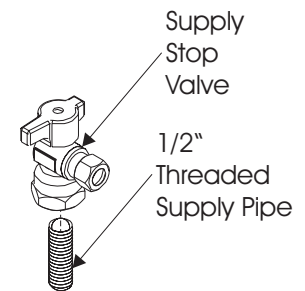
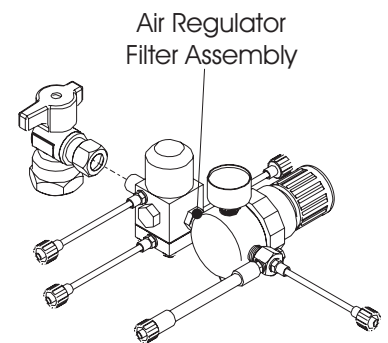

Figure 1.
Figure 2.
2 Remove the top set of pre-assembled 3/4" nut, bearing race, washer, bearing, and washer from the chair's 360 Top Plate mounting assembly, which is located in front, below the Seat assembly and above the Base Linkage assembly. See Figure 1.
4 Locate the 360 Auto Control Delivery Arm assembly to the 360 Top Plate mounting assembly, [see Figure 2.] and re-install the washer, bearing, washer, bearing race, and 3/4" nut to the 360 Stud Bolt in the correct order, then secure and tighten the 3/4" nut. See Figure 1.
- A 1/2" threaded water supply pipe and a 1/2" threaded air supply pipe must be 1" tall maximum, above the finished floor. Using the proper thread sealant, install the "two" included Supply Stop Valves to the 1/2" threaded pipes, one each pipe. Once set, use these valves to purge the water and air supply pipes to remove any supply line debris. (See Figure 1.)
- The supplied Air Regulator Filter assembly and Water Regulator Filter assembly are *PRE-ADJUSTED*. Insert the nipple of each assembly into the compression fitting of it's designated Manual Shut-off Valve ("A" for air) ("W" for water), and tighten. (See Figure 2.)